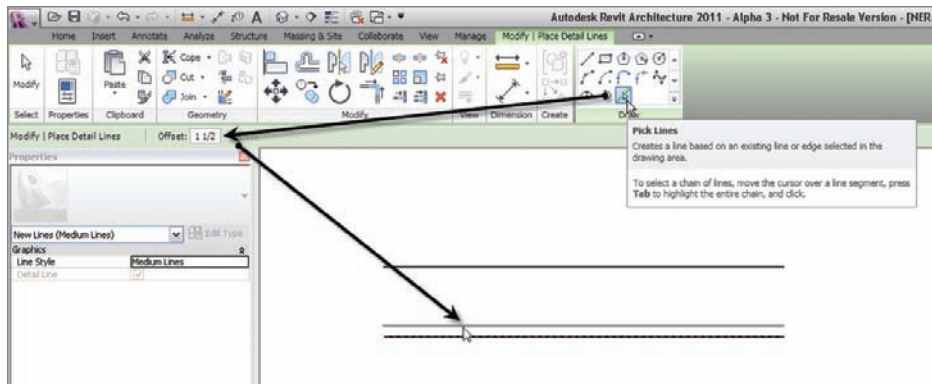

FIGURE 12.62 Using Pick Lines and adding an offset of 1 1/2"
9. Again on the Options bar, change the offset to 1 1/2", as shown in Figure 12.62.
10. Offset the bottom line down 1 1/2". Your detail should look like Figure 12.62.